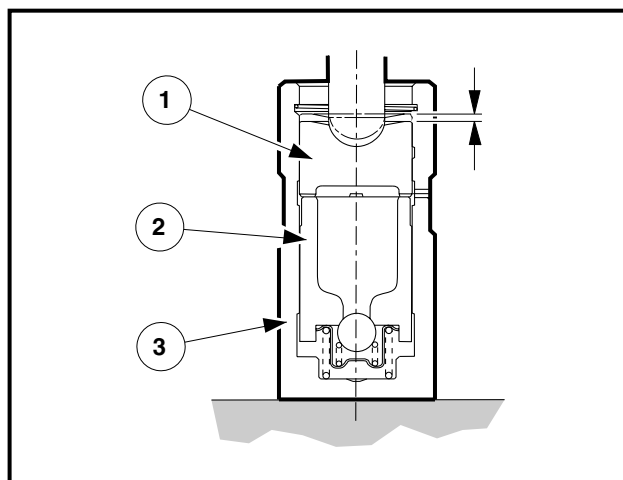

Figure 13-48 Inspect for Hydraulic Lifter Wear
- Do not depress the socket (1) (**Figure 13-48, Page 13-25**). This will cause the engine oil to leak out of the high pressure chamber during storage. Keep the hydraulic lifters upright to prevent the engine oil from spilling out of the lifters during storage.
If the engine typically remains noisy for two minutes after it starts, the hydraulic lifter might be worn between the plunger (2) and the body (3). Proceed with the following to check the hydraulic lifter for wear (**Figure 13-48, Page 13-25**)
2. Push the socket (1) down and measure the distance that it sinks (**Figure 13-48, Page 13-25**).